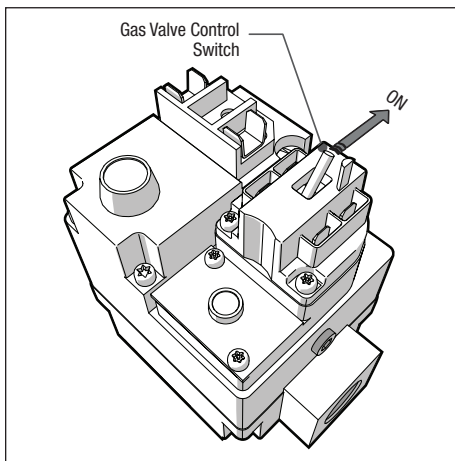

Figure 22. Gas Valve
- Toggle gas control switch to OFF position. See *Figure 22*.
- Wait five (5) minutes to clear out any gas, then smell for gas, including near the floor. **IF YOU SMELL GAS, STOP!** Follow instructions in *Section 8.1.1, What To Do If You Smell Gas*.